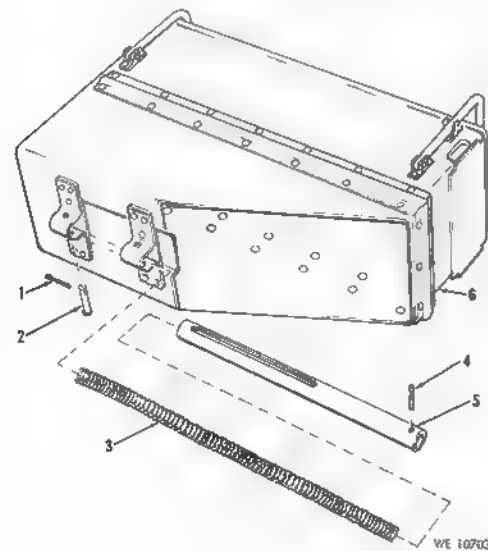

Figure 3-18. Ammunition can assembly—partially exploded view.
a. *Disassembly and/or Assembly.* Refer to figures 3-18 and 3-14.
a. *Disassembly and/or Assembly.* Refer to figure 3-18.
- (1) Examine plunger for cracks and distortion. Replace if unserviceable.
- (2) Inspect spring for proper tension and kinked loops. Replace if unserviceable.
- (3) Examine ammunition can assembly for loose rivets and distortion, return to direct support for repair or replacement.